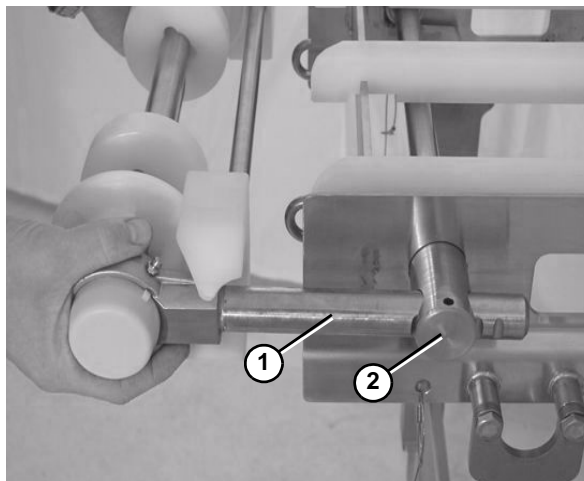

Figure 12
3. Slide the bearing shafts (**Figure 12, item 1**) into the holes in the tip up shaft (**Figure 12, item 2**).